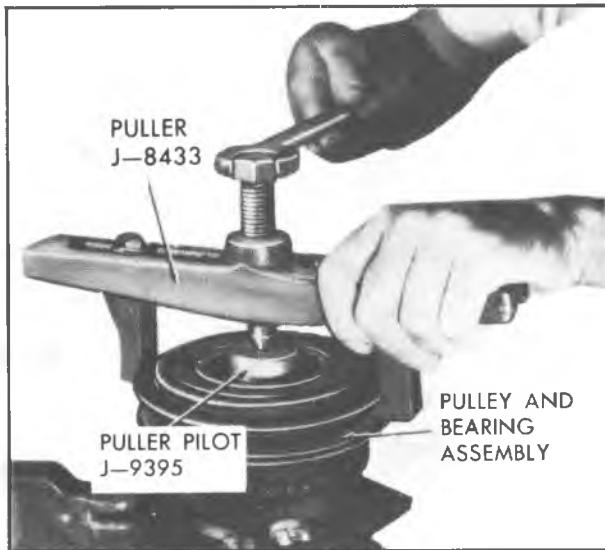
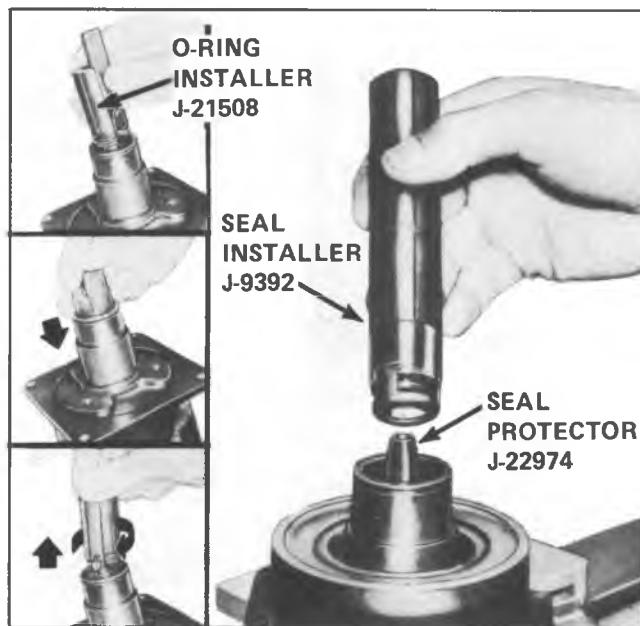
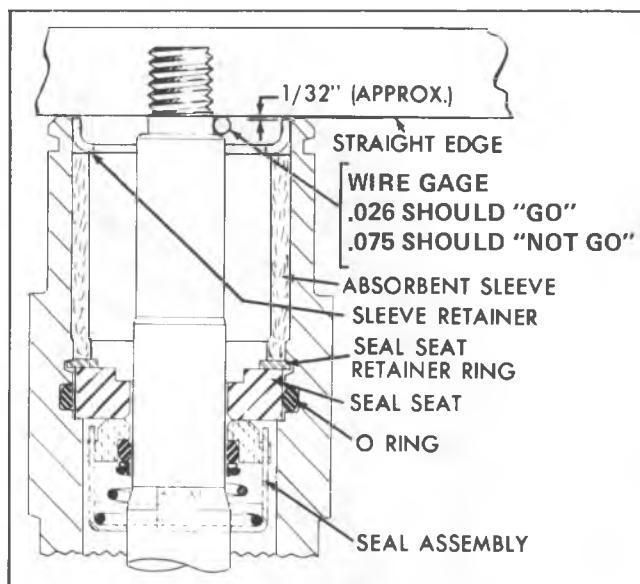

Fig. 11--Removing Pulley and Bearing Assembly
Fig. 20--Replacing Seal and O-Ring
Fig. 21--Compressor Shaft and Seal
5. Remove Pulley and Bearing Assembly using Pulley Puller J-8433 (Fig. 11).
on Seal Installer J-9392 by twisting the tool **clockwise**, **while pressing the tool down**. Then lift the seal assembly out (see Fig. 20).
1. Coat new seal seat O-ring with clean 525 viscosity refrigerant oil and install in compressor neck, **making certain it is installed in bottom groove** (Fig. 20 and Fig. 21). Top groove is for retainer ring. Use O-Ring Installer J-21508.
2. Coat the O-ring and seal face of the new seal assembly with clean 525 viscosity refrigerant oil. Carefully mount the seal assembly to Seal Installer J-9392 by engaging the tabs of the seal with the tangs of the tool (Fig. 20).
3. Place Seal Protector J-22974 (Fig. 20) over end of shaft and **carefully slide the new seal assembly onto the shaft. Gently twist the tool CLOCKWISE, while pushing the seal assembly down the shaft** until the seal assembly engages the flats on the shaft and is seated in place. Disengage the tool by pressing downward and twisting tool counterclockwise.
9. Position the new metal sleeve retainer so that its flange face will be against the front end of the sleeve. Pulley Puller Pilot J-9395 (See Fig. 11) may be used to install the retainer. Press and tap with a mallet, setting the retainer and sleeve into place (retainer should be recessed approximately  $1/32"$  from the face of the compressor neck). See Fig. 21.
To check for proper positioning of the axial plate on the shaft, remove the clutch driven plate and measure the distance between the front head extension and the flat shoulder on the shaft as shown in Fig. 21. To measure this distance, use a wire gage (**the clearance should be between .026" and .075"**). If the shaft has been pushed back in the axial plate (measurement greater than .075"), disassemble the compressor and replace the shaft and axial plate assembly rear thrust races and thrust bearing.